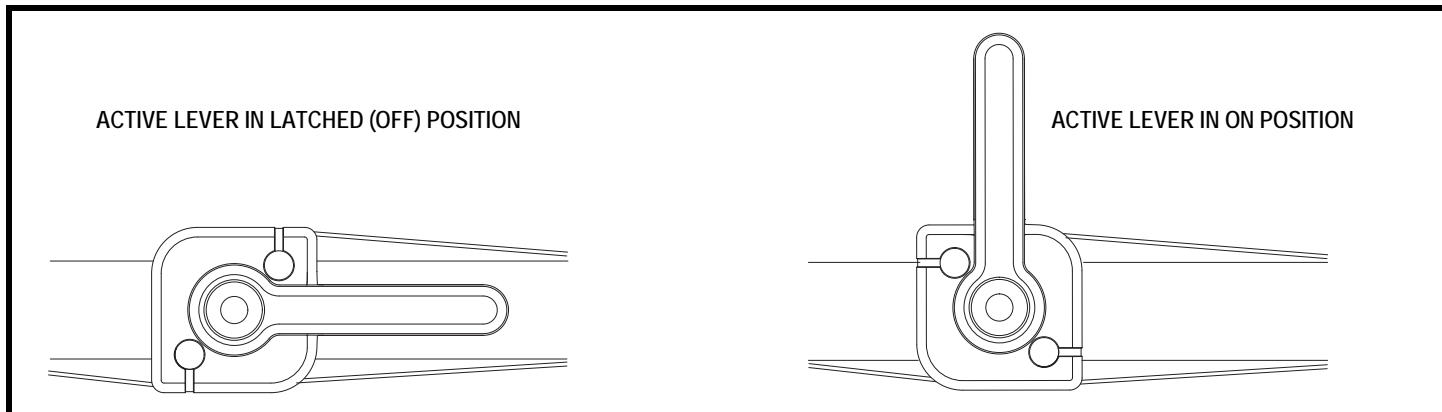

Figure 50. ACTIVE Handle Lever on Kids FAST
2. Rotate the ACTIVE handle lever into the ON position. The child may start moving at this point. See figures 50 and 51.